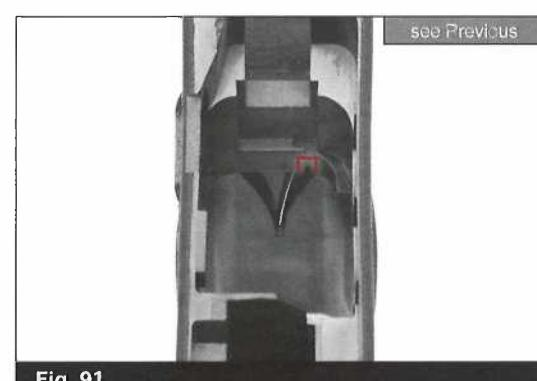

Fig. 91
- Then push the magazine catch spring back into the notch in the magazine catch body. (Fig. 91)